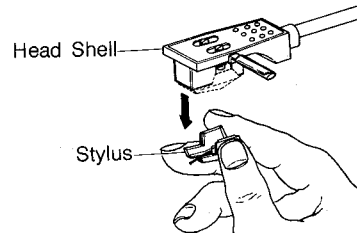

FIG. 17
■ **To Replace Stylus (Refer to Fig. 17)**
2. Gently pull out worn stylus and replace it with a new one, as shown in Fig. 17.